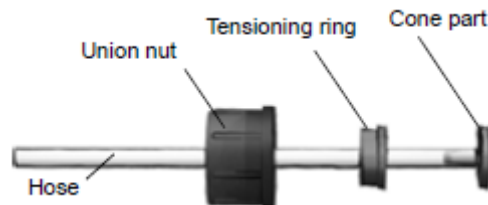

Fig. 6 Hydraulic connection
2. Push cone part fully into the hose, see fig. 6.